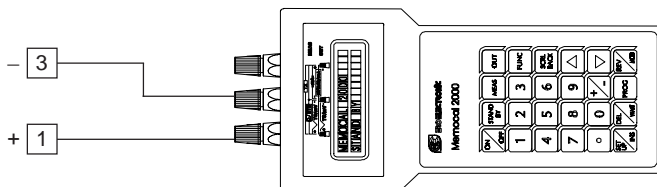

Fig.2
- Connect the instrument under test to the calibrator as shown in Fig. 2.
- 1) Set the calibrator to 60.000 mV (see Fig. 2).